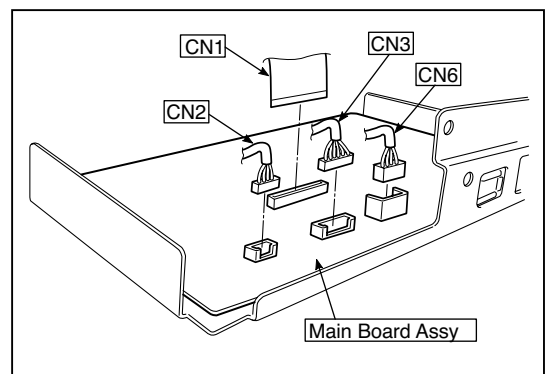

Fig.3
3.Disconnect the connector (CN1,2,3,6) connected to the Main Board Assy shown in the figure 3.(See Figs. 3 and 4,5.)